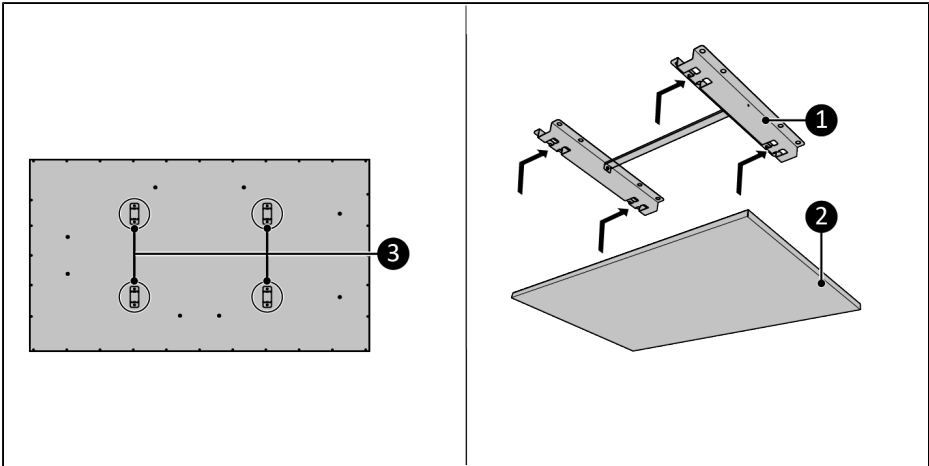

Figure 17.
8. Place the device brackets (Figure 17, pos. 3) over the ceiling bracket (Figure 17, pos. 1).
9. Slide the device (Figure 17, pos. 2) into the openings of the ceiling bracket (Figure 17, pos. 1).